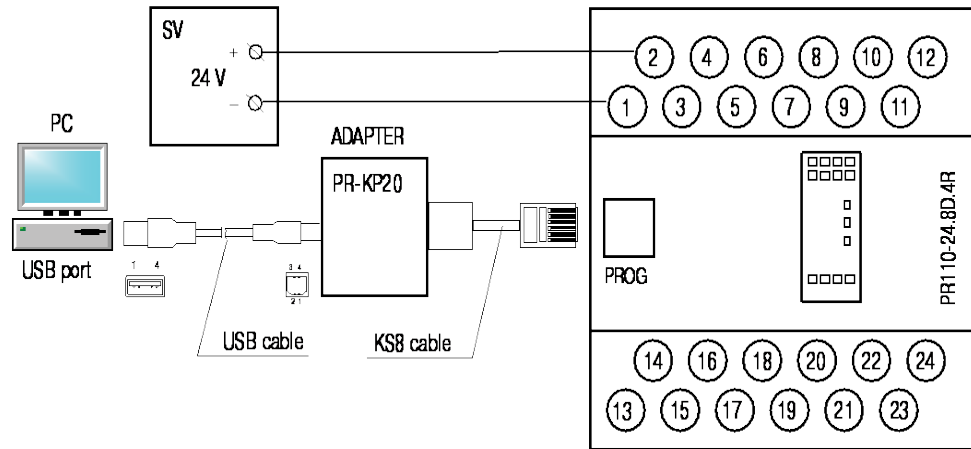

Fig. B.1 Connection to PC
- Connect the relay to the PC according to Fig. B.1